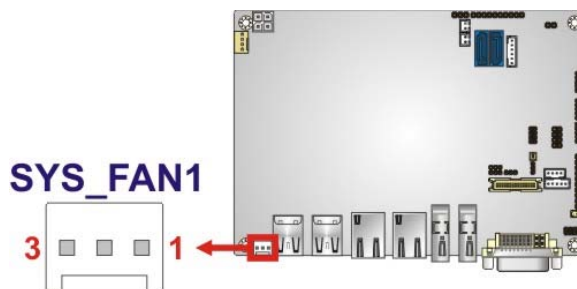

Figure 3-7: System Fan Connector Location
- CN Location:** See Figure 3-7